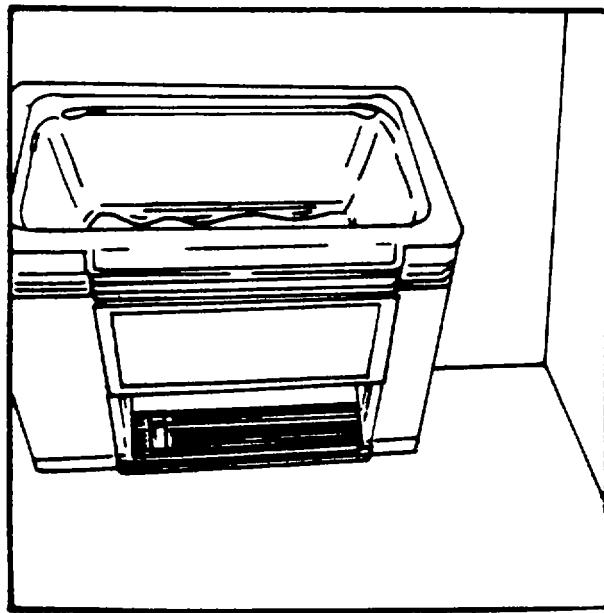

Figure 1-19. Ultrasonic Cleaner
k. *Ultrasonic Cleaner* (Figure 1-19). Cleans laboratory instruments and glassware and is stored in cabinet C when not in use.